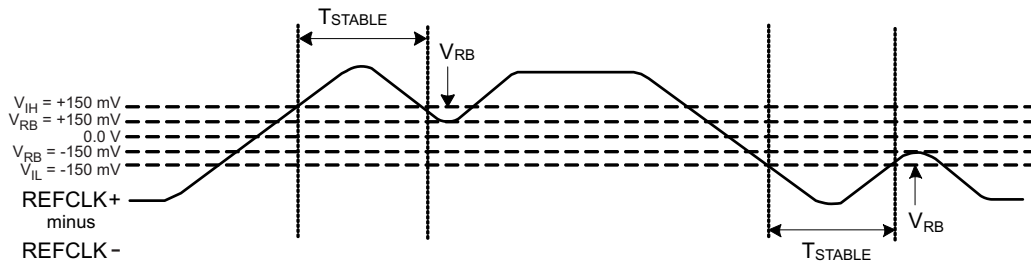

Figure 5. HCSL Ring Back Margin and Timing
- (4)  $T_{STABLE}$  is the time the differential clock must maintain a minimum  $\pm 150$  mV differential voltage after rising/falling edges before it is allowed to droop back into the  $VRB \pm 100$  mV differential range. See Figure 5.
- (5)  $t_{Rfin} = t_{Ffin} \geq 0.6$  V/ns.
- (6) Measured from  $-150$  mV to  $+150$  mV on the differential waveform. The signal must be monotonic through the measurement region for rise and fall time. The 300 mV measurement window is centered on the differential zero crossing. Slow is 0.53V/ns, medium is 1.05V/ns, and fast is 2.1V/ns. The PCIe CEM spec. has a window of 0.6V/ns to 4V/ns.
- (7) Assumes input duty cycle = 50%.
- (8) Skew measured between identical output types with identical loads, identical output power supplies, and identical edge rate settings.
- (9) Parameter depends significantly on power supply design and supply voltage rise time.